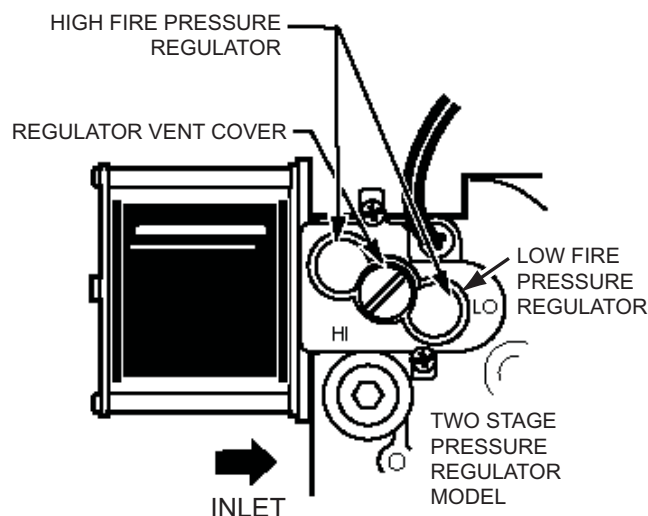

FIG. 3-2 – MANIFOLD GAS PRESSURE ADJUSTMENT
- Small adjustments to the manifold gas pressure can be made by following the procedure outlined below. Refer to Figure 3-2 for the high and low fire pressure regulator adjustment locations.